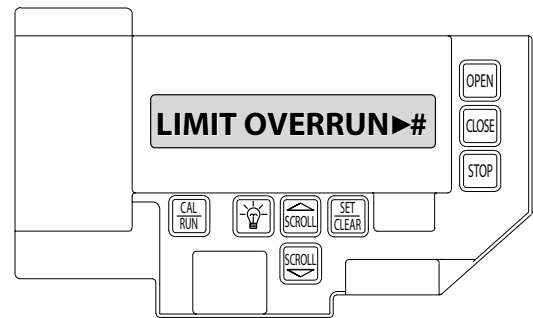

Fig. 8
- 1) Press SET/CLEAR until the display reads the desired value (1-9). Fig. 8